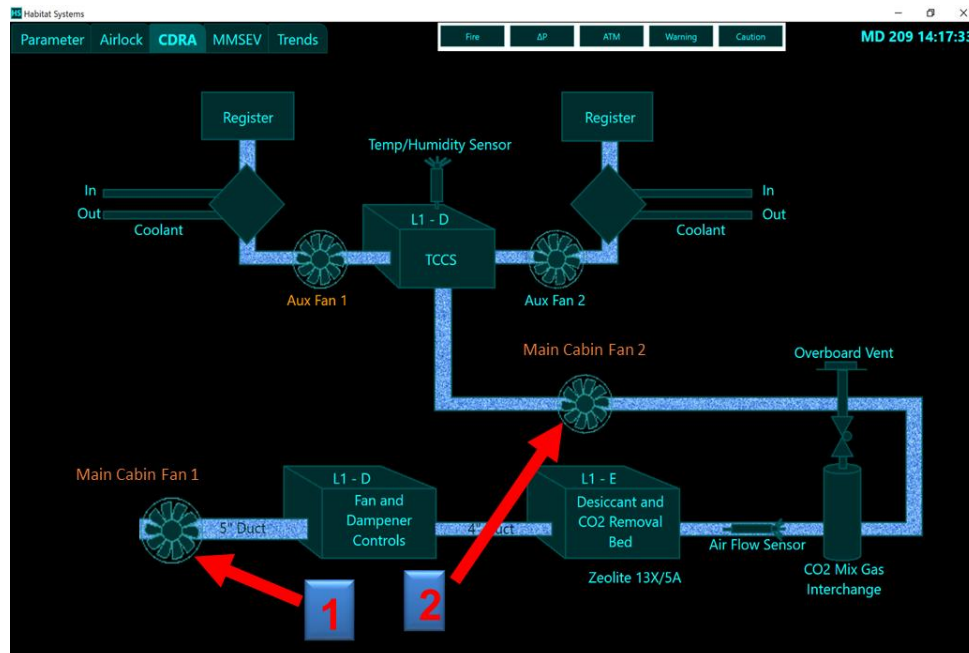

Figure 1. Main Cabin Fan Power
- 1.1 On HSS CDRA display, touch Main Cabin Fan 1 icon to activate fan (see Figure 1).
- 1.2 On HSS CDRA display, touch Main cabin Fan 2 icon to activate fan (see Figure 1).